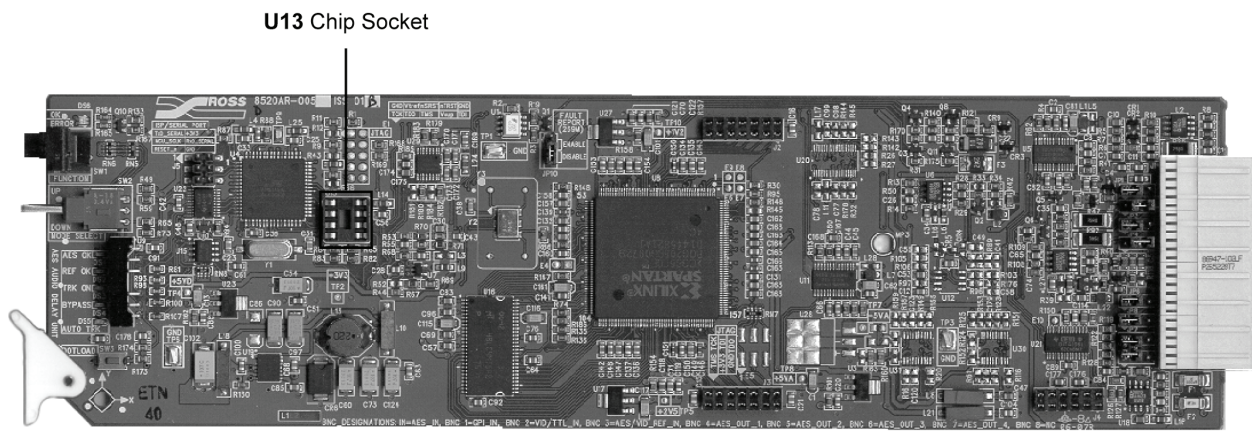

Figure 23. ADL-8520A Upgrade Socket and Label Locations
For all possible upgrades to the **ADL-8520A** use socket **U13**. If there is a chip already inserted into **U13**, remove it as described in the following procedure and **Figure 23**.
1. With the card out of the frame, refer to **Figure 23** and the card labeling to locate chip socket **U13**.
1. With the card out of the frame, refer to **Figure 23** and the card labeling to locate the **U13** socket.